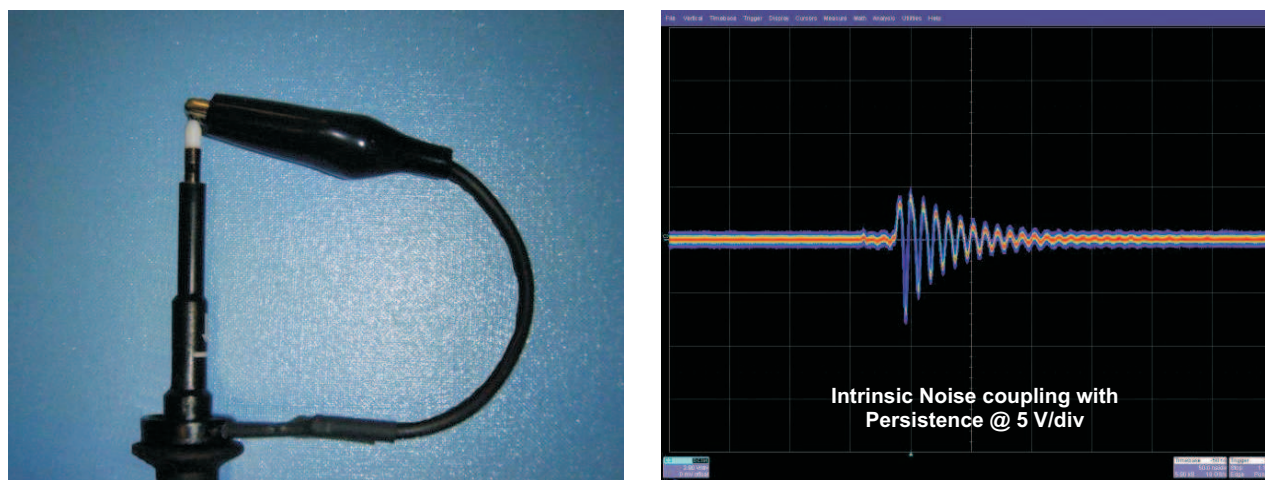

Figure 6. Ringing Voltage Pick-up by 3-Inch Ground Wire
1. The ground lead length of an oscilloscope probe is the most important item in properly capturing the peak values of the switch node voltage ringing. Do not use the standard 3-inch long ground wire supplied with the oscilloscope probe. The long wire loop will act as an antenna by picking up any radiated noise emitted by the system board and will yield a higher value of switch node voltage ringing than what is actually seen by the device (see Figure 6 and Figure 7). Instead, use a small-length ground wire that attaches to the oscilloscope probe tip end (see Figure 8).